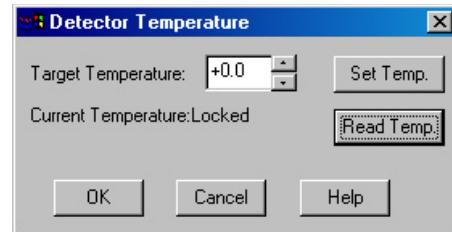

Figure 40. Temperature dialog
1. Open the WinSpec/32 Setup menu and click on **Detector Temperature**. This will cause the Temperature dialog to appear as shown in Figure 40.